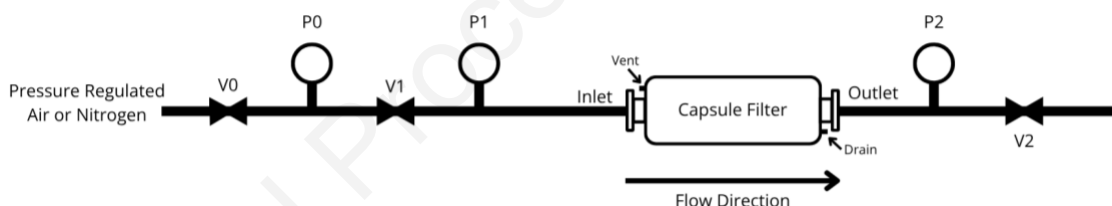

Figure 1: Capsule Pressure Decay Testing
2. Typical setup for pressure decay testing is shown in Figure 1.